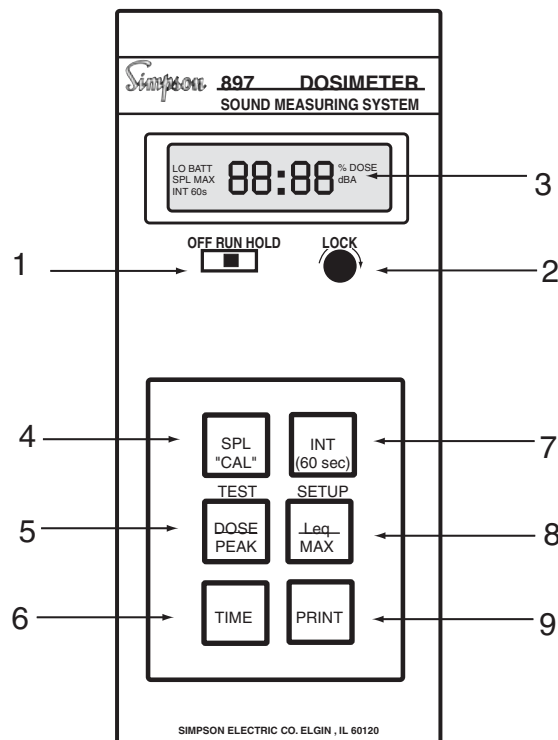
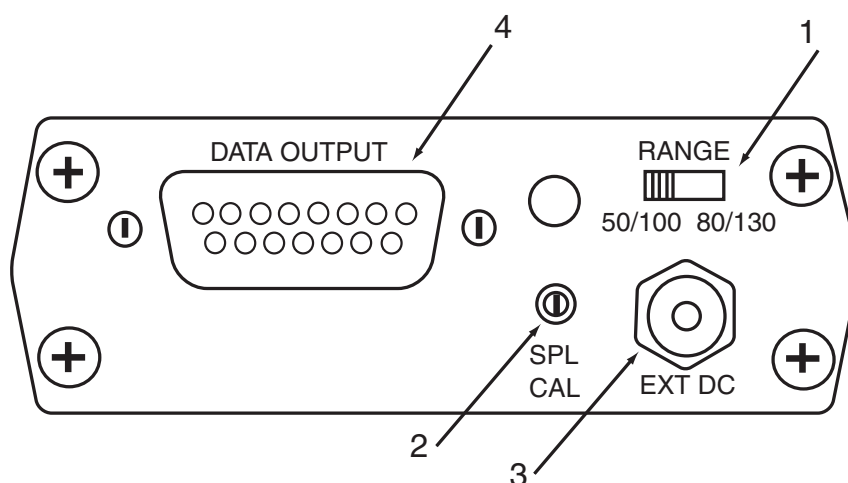

Figure 4-1. Front Panel
Figure 4-2. Top Panel
All front panel operating controls are described in Table 4-1 and shown in Figure 4-1. Top panel adjustments, controls and connectors are described in Table 4-2 and shown in Figure 4-2.
- Press and hold the “Setup” button (see Figure 4-1) while switching the “OFF-RUN-HOLD” switch (see Figure 4-1) from “OFF” to “RUN.”
- Once the desired parameter is displayed, press the “Test” button (see Figure 4-1) to select the available choices of that parameter. The digit or digits which will change as a result of pressing the “Test” button will flash. The display prompt for each function is given within the parenthesis.
- d. Once all the parameter choices are made, switch the "OFF-RUN-HOLD" switch (see figure 4-1) to "OFF" for three seconds and all changes will be saved in the internal memory. It is unnecessary to go through the entire sequence; you may stop and switch the power "OFF" once all needed changes are made. All of the above parameters, with the exception of the Real-Time